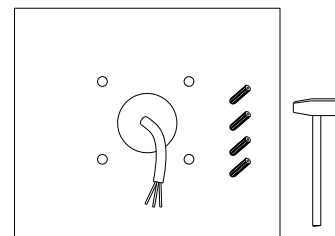

Figure 1-2
2.Fix rubber plugs into holes.(Figure 1-2)